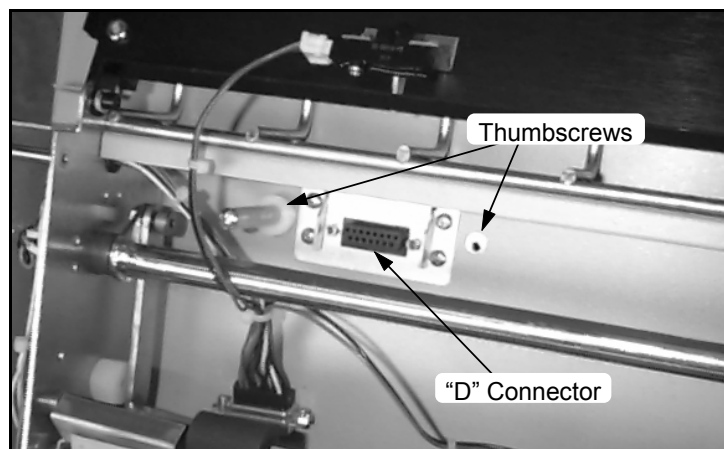

Figure 4
4. Install and tighten the two thumbscrews at the positions indicated in Figure 4.
2. Loosen the connector screws and unplug the FormsCutter cable harness from the “D” connector on the electronics module (refer to Figure 4).